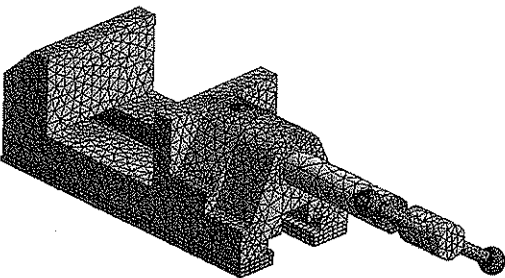

Figure 8-28 Mesh generated with default algorithm settings
24. Choose the **Update** button from the **Mesh** contextual toolbar to update the mesh with the **Patch Independent** algorithm; the mesh with **Patch Independent** algorithm is generated, as shown in Figure 8-28.